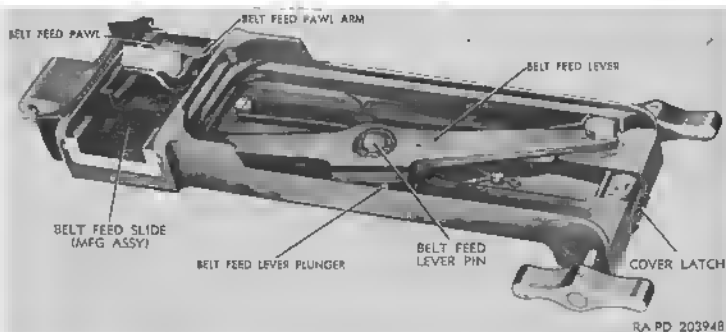

Figure 14. Belt feed cover assembly—left hand feed arrangement.
- (1) Using a drift, drive out the $0.094 \times \frac{11}{16}$ spring pin, remove the belt feed lever pin, and slide the belt feed lever from the belt feed cover assembly (figs. 14, 15, and 16). If difficulty is encountered in removing the pin without damage, refer to higher echelon maintenance.
- (2) Remove the belt feed slide from cover and with a drift, remove the belt feed pawl pin.
- (3) Relocate the belt feed pawl arm on the opposite side of the belt feed pawl. Aline the belt feed pawl and arm on the slide and replace the belt feed pawl pin.